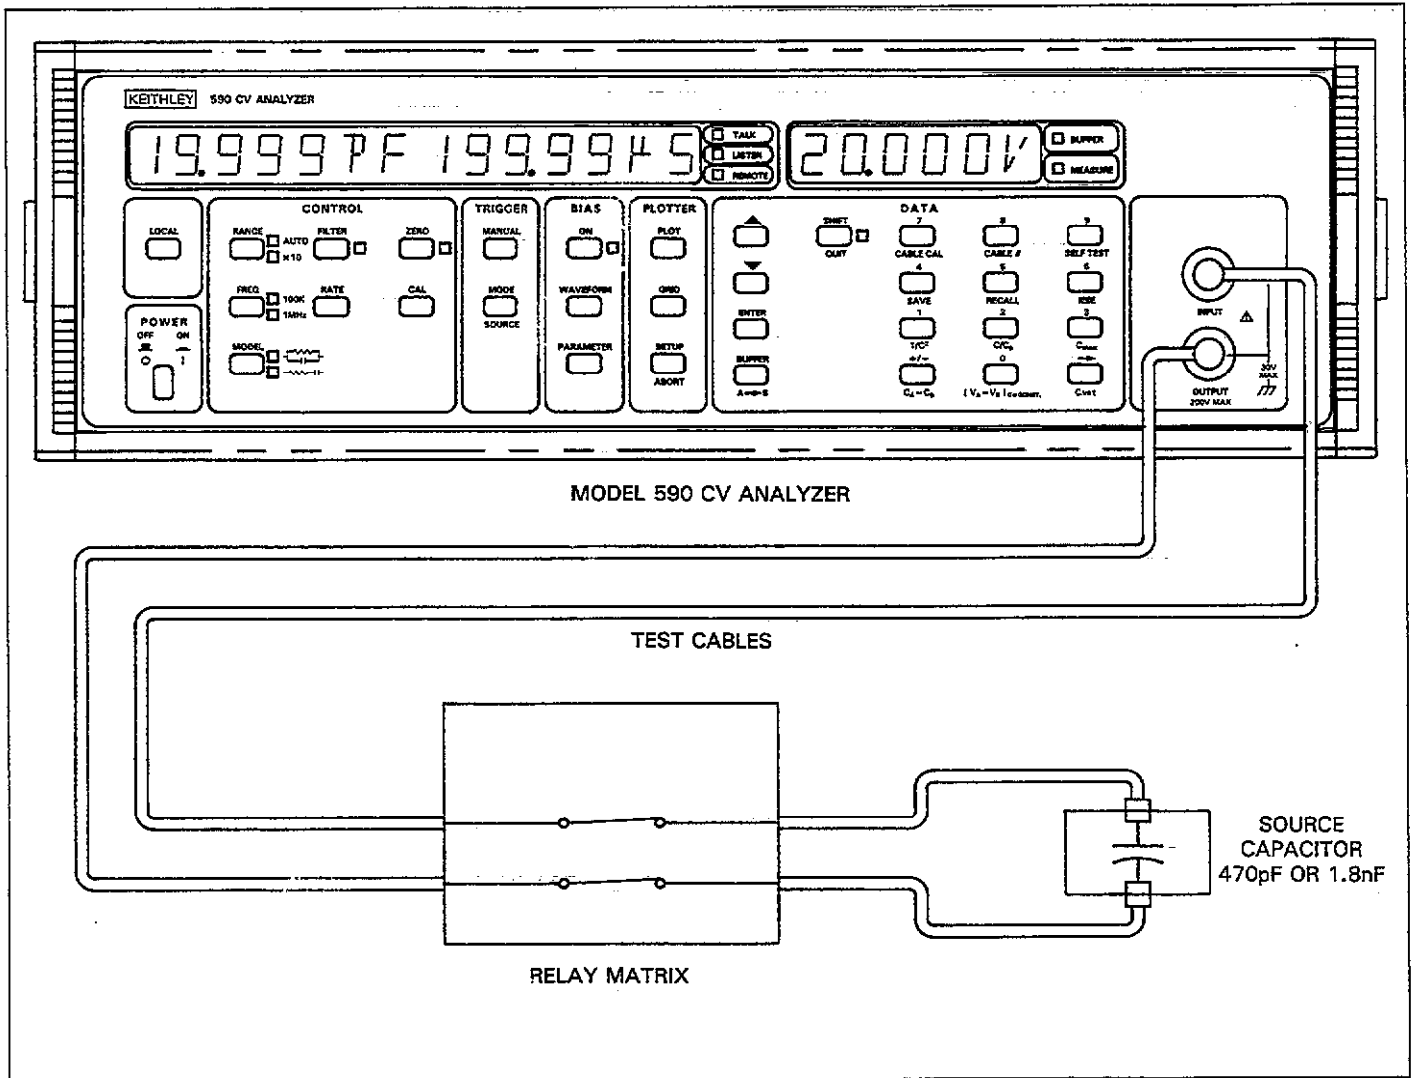

Figure 4-53. Connections for Calibration Capacitor Correction
Figure 4-53 shows typical connections for this method of cable correction. Again, we have assumed that a relay matrix will be included in the test path. Of course, your par-
7. Connect the 1.8nF capacitance source listed in Table 4-23 in place of your test fixture as shown in Figure 4-53.